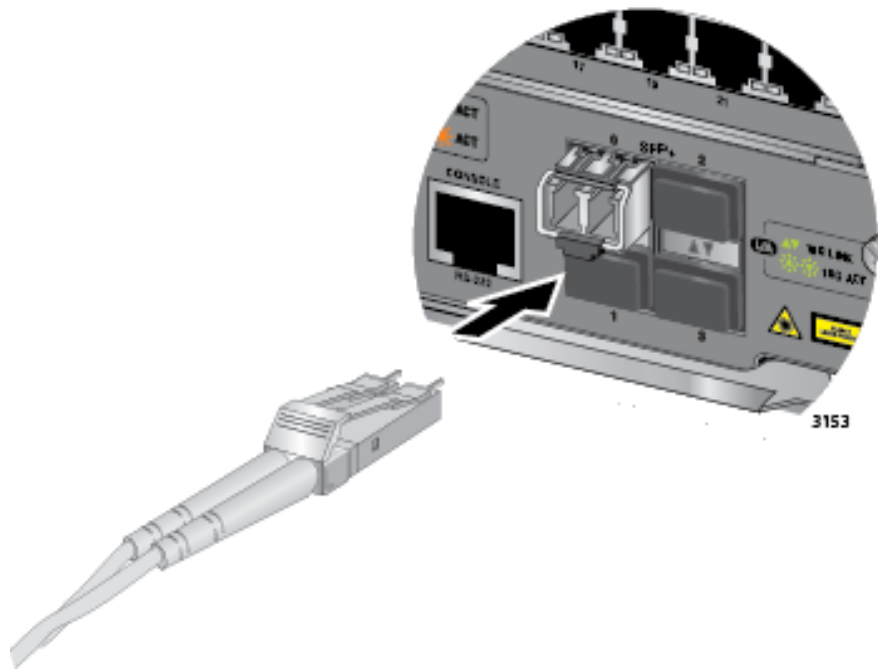

Figure 118. Attaching a Fiber Optic Cable to an SFP or SFP+ Transceiver in the AT-SBx31CFC960 Controller Fabric Card
5. Connect the fiber optic cable to the port on the transceiver, as shown in Figure 118. The connector should snap into the port.